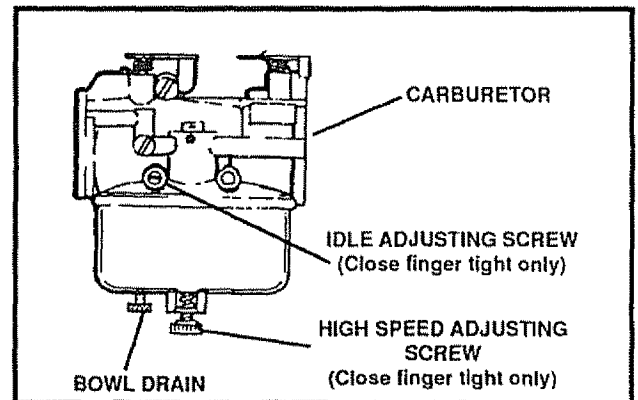
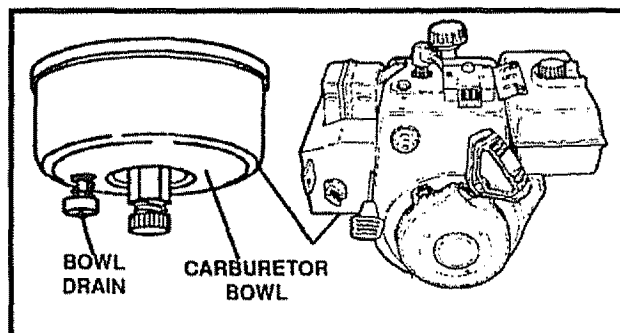

FIG. 35
FIG. 37
The carburetor (See Fig. 35 and Fig. 37, page 26) has been pre-set at the factory and readjustment should not be necessary. However, if the carburetor does need to be adjusted, proceed as follows:
- To remove gasoline, run the engine until the tank is empty and the engine stops. Then drain remaining gasoline from carburetor by pressing upward on bowl drain located on the bottom of carburetor (See Fig. 37).